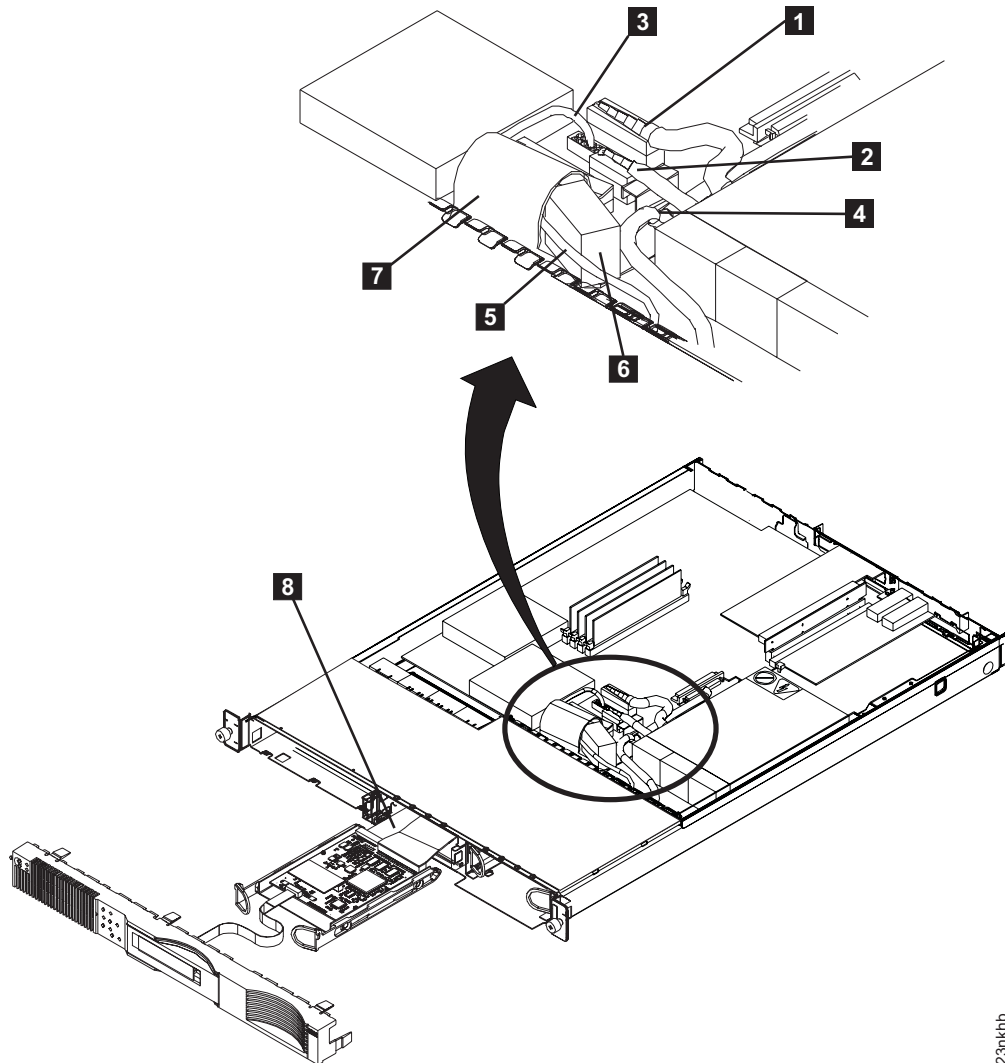

Figure 141. Service controller cables for the SAN Volume Controller 2145-4F2
5. Press the latch on power connector P1 **1** and power connector P2 **2**, and disconnect them from the system board. See Figure 141 on page 470.